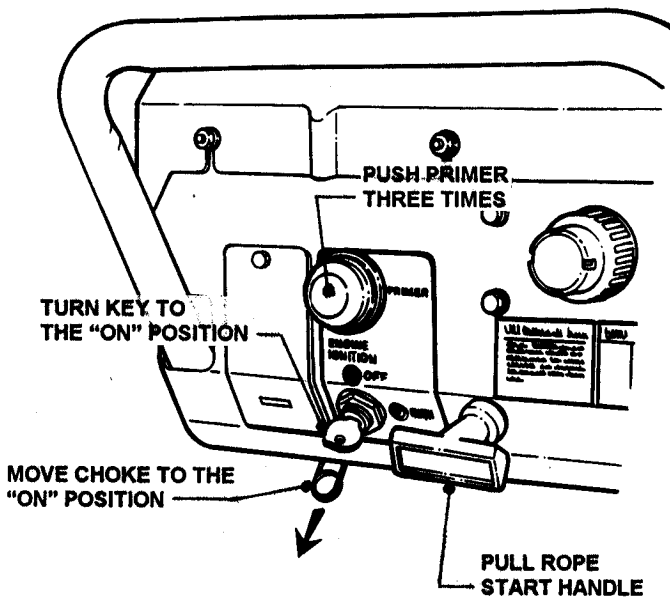

FIGURE 2.4
1. Move choke control to the choke "ON" position. See Figure 2.4.
3. Push primer button three times to start a cold engine. **NOTE:** Do not use primer button to start warm engine. See Figure 2.4.